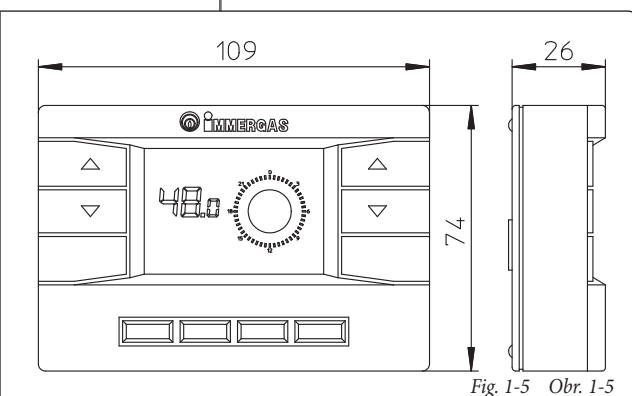
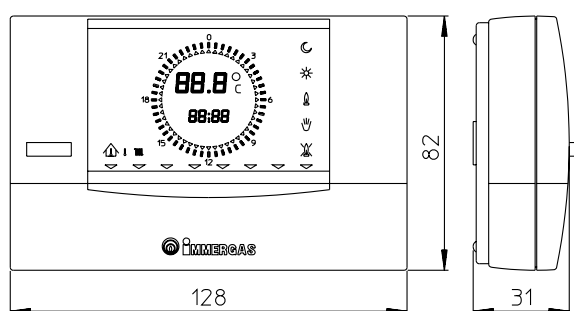

Fig. 1-5 Obr. 1-5
Fig. 1-6 Obr. 1-6
- There are two types of Remote Friend Control (RFC) (Fig. 1-6) and Digital Remote Control (DRC) (Fig. 1-5) both with room chronothermostat functioning. In addition to the functions described in the previous point, the Remote Friend Control enables the user to control all the important information regarding operation of the appliance and the heating system with the opportunity of easily intervening on the previously set parameters without having to go to the place where the appliance is installed. The Remote Friend Control panel is provided with self-diagnosis to display any boiler functioning anomalies. The climate chronothermostat incorporated in the remote panel enables the system delivery temperature to be adjusted to the actual needs of the room being heated, in order to obtain the desired room temperature with extreme precision and therefore with evident saving in running costs. The chronothermostat is fed directly by the boiler by means of the same 2 wires used for the transmission of data between boiler and chronothermostat.